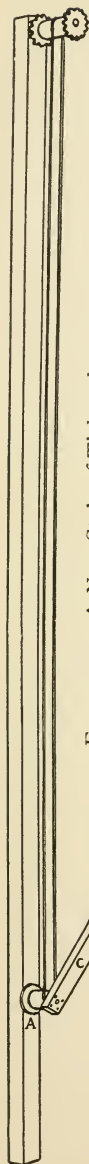

FIG. 302. — A New Style of Tick-tack.
**A New Style of Tick-tack**, such as illustrated in Fig. 302, which claims several advantages over the ordinary kind. In the first place it has a crank arrangement which does away with the long string that is everlastingly becoming entangled, and only one boy is necessary to operate it where two are required with the old-style affair. Again, by having the tick-
tack upon the end of a long pole, second-story windows can easily be reached with it. For the making of this tick-tack, procure two large spools, some heavy cord, and a long pole (perhaps you can borrow your mother's clothes-pole for the occasion). With a knife cut notches in the flanges of one spool, and fasten it to one end of the pole, driving a large nail through the hole in the centre of the spool into the pole (see Fig. 302). Place the other spool in your bench-vise